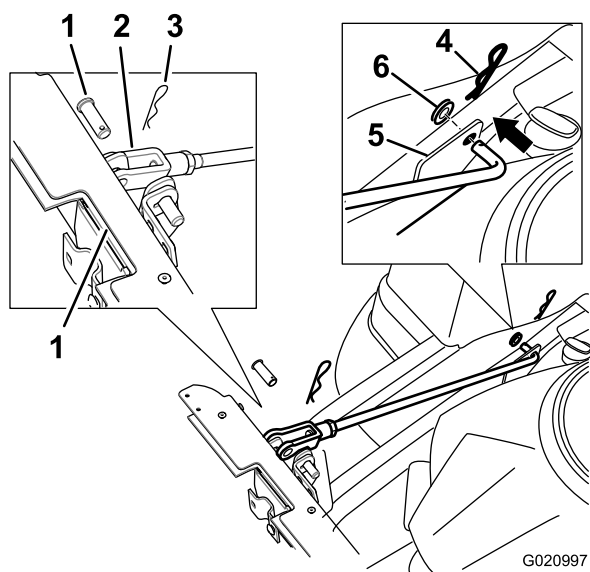

Figure 7
7. Install two support rods, one to each side of the bagger frame. Locate the existing bracket between the rear drive wheel and frame (Figure 7).
8. Insert the bent ends of the rod into the bagger frame as shown in Figure 7. Secure the end of the rod with a washer and hairpin cotter pin.
- D. Secure the clevis end of the rods to the bagger frame using a clevis pin and hairpin cotter pin (Figure 7).